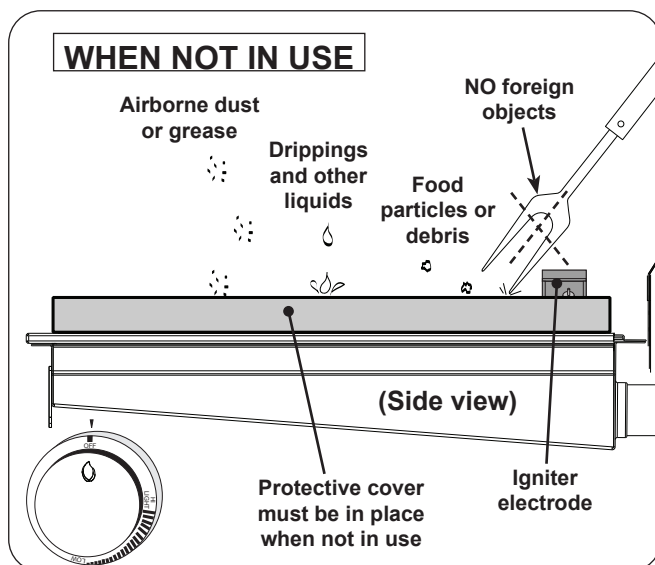

Fig. 38-2 Infrared burner - WHEN NOT IN USE
- When not in use, **always** cover the infrared burner with the stainless-steel cover. This protects the burner from drippings (from other cooking), water, airborne particles, and foreign objects (Fig. 38-2).
- Do not strike or scrape the ceramic portion of the burner as it may chip, crack, or break (Fig. 38-2).